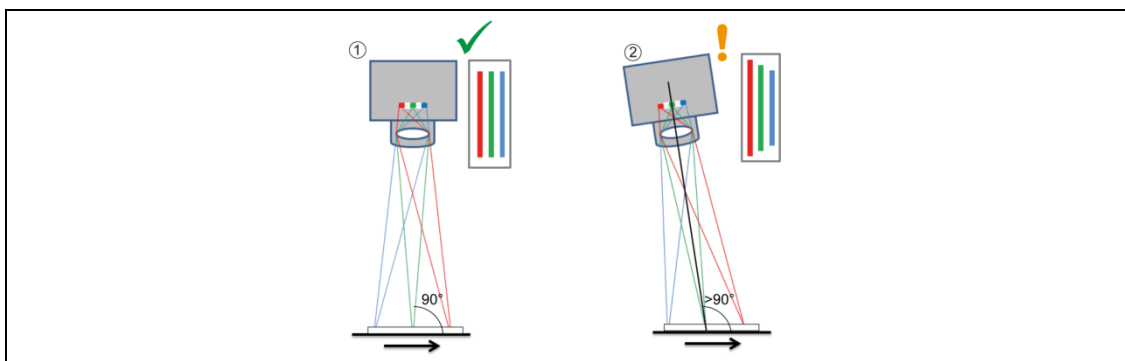

Fig. 17: Adjusting the longitudinal orientation of the camera
- In the standard case, the longitudinal and transverse axes of the camera are adjusted perpendicular ( $90^\circ$ ) to the inspection plane (see Fig. 17, p. 41).